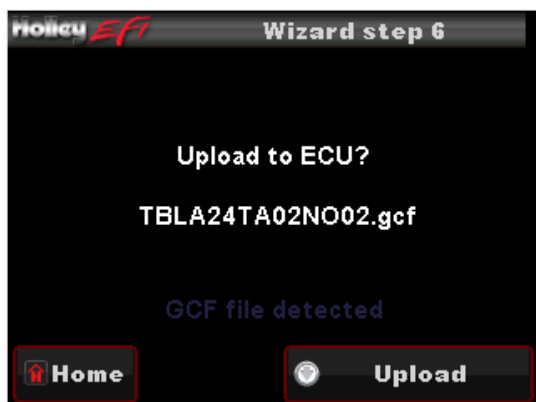

Figure 58
12. After selecting injector type, your calibration will be created (Figure 58). Press the "Upload" button to send the calibration to the ECU. You will then see a screen showing "Uploading" (Figure 59). Finally you will see a screen indicating the file is uploaded. Cycle the ignition switch for the calibration to take affect (Figure 60). Proceed to section 21.0.